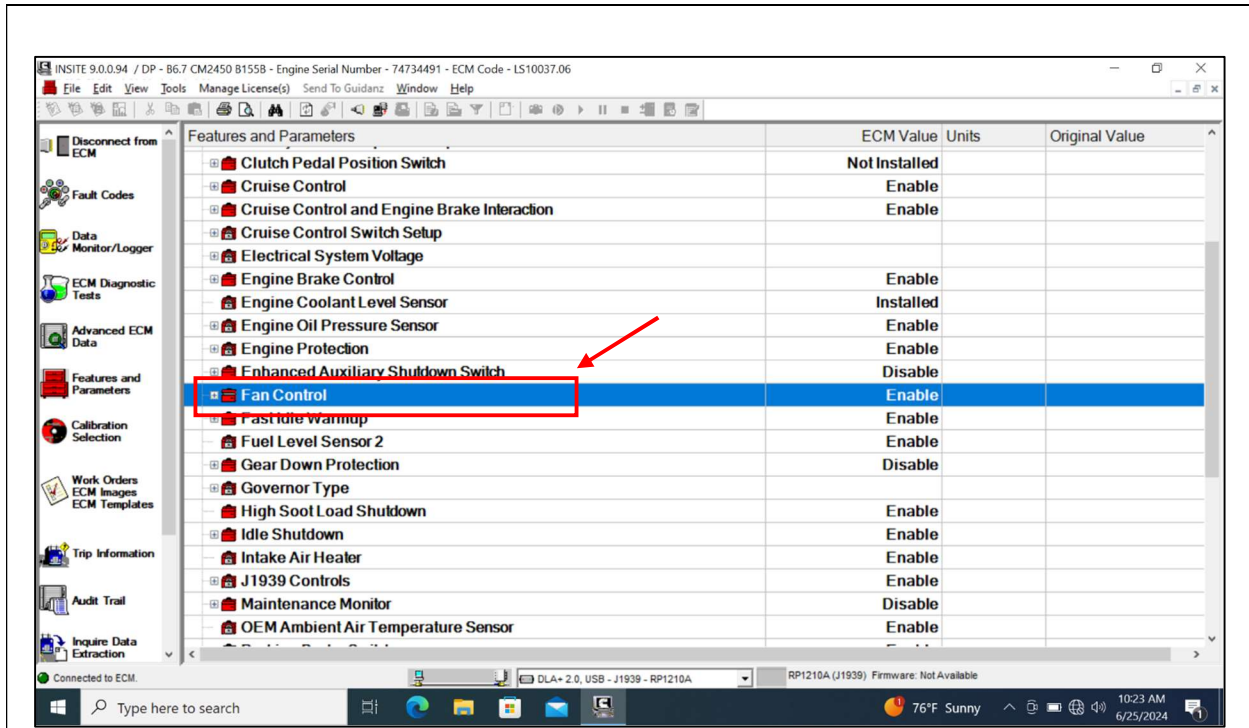

Figure 3
5. Select **Fan Control**. (See Figure 3.)